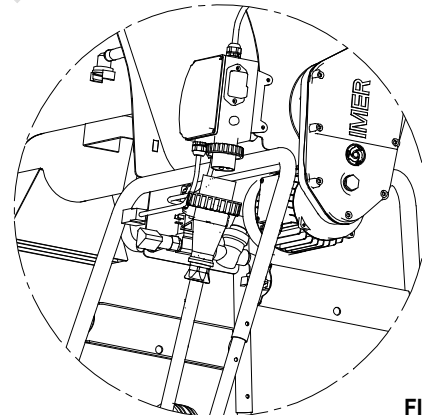

FIG. 5
10.1 ELECTRICAL CONNECTION (see fig.5)
Connect the mixer socket on the electrical panel to the mains (fig.5).